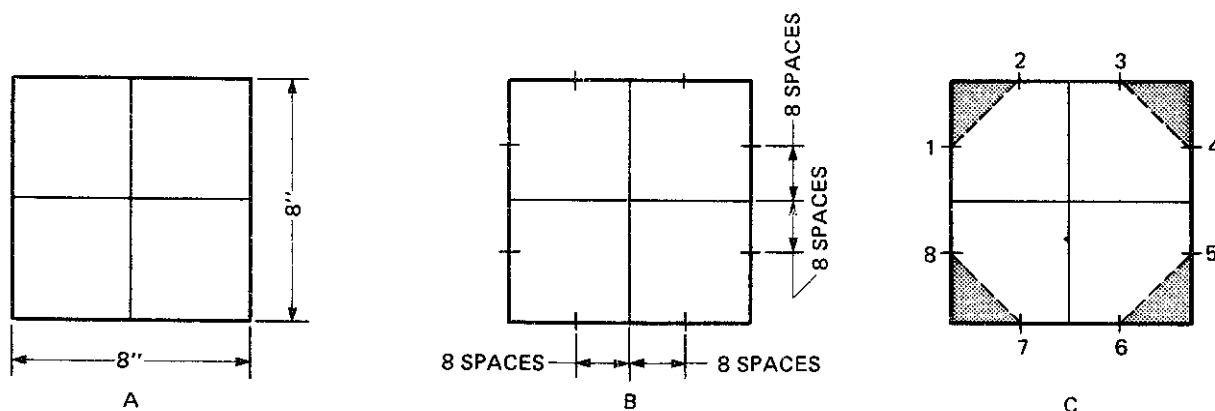

Fig. 3-9 Layout of an octagon with the octagon scale
1. Locate the center points on each of the four sides of the square as shown in A, figure 3-9.
3. Transfer this width to each side of each center point on the 8-inch square. See B, figure 3-9.
4. Connect points 1 through 8 as shown in C, figure 3-9.